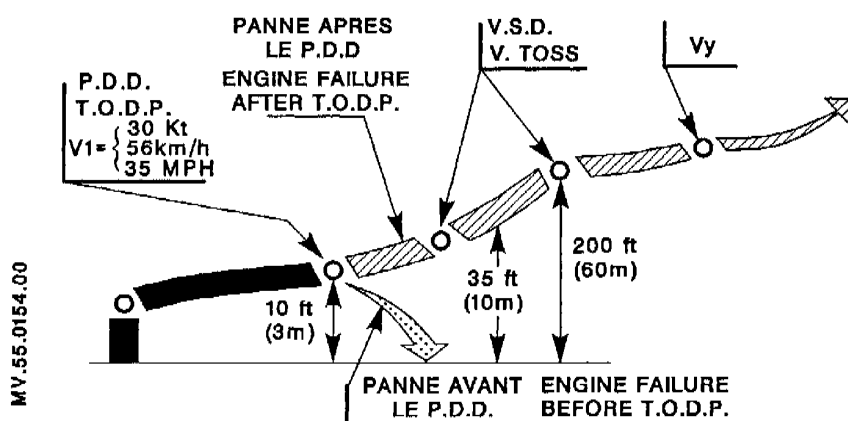

Figure 2
3.1.2 Emergency procedure in the event of an engine failure on takeoff (Figure 2)